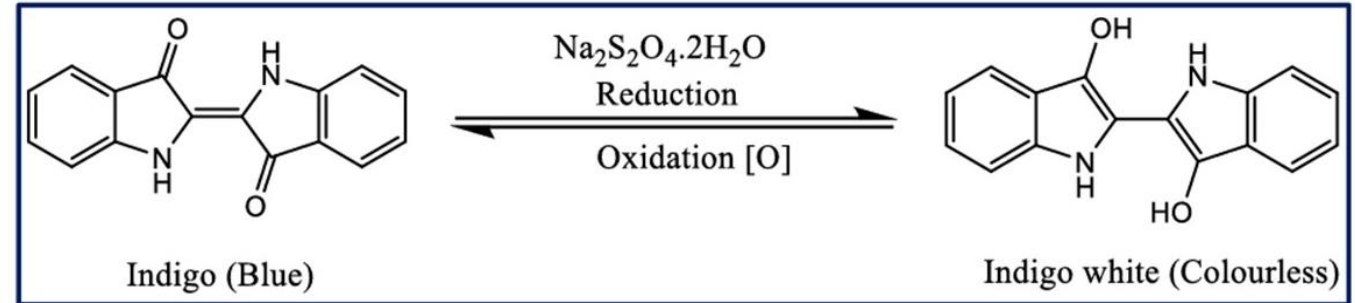

Figure 2: The reduction of Indigo dye
- ❑ One of the very common groups of dye in printing of cellulosic materials is the group of **vat** dyes. These are water-insoluble dyes, which are converted into a soluble form through the reduction process during printing, and after printing, they are returned to an insoluble form during the oxidation process, which is why they provide excellent fastness properties. For the reduction of vat dyes, mostly the Sodium hydrosulphite is used ( $\text{Na}_2\text{S}_2\text{O}_4$ ). **Figure 2** is showing the reduction and oxidation process of Indigo dyes (the most well known vat dye of natural origin. Today only synthetic indigo dyes are used).